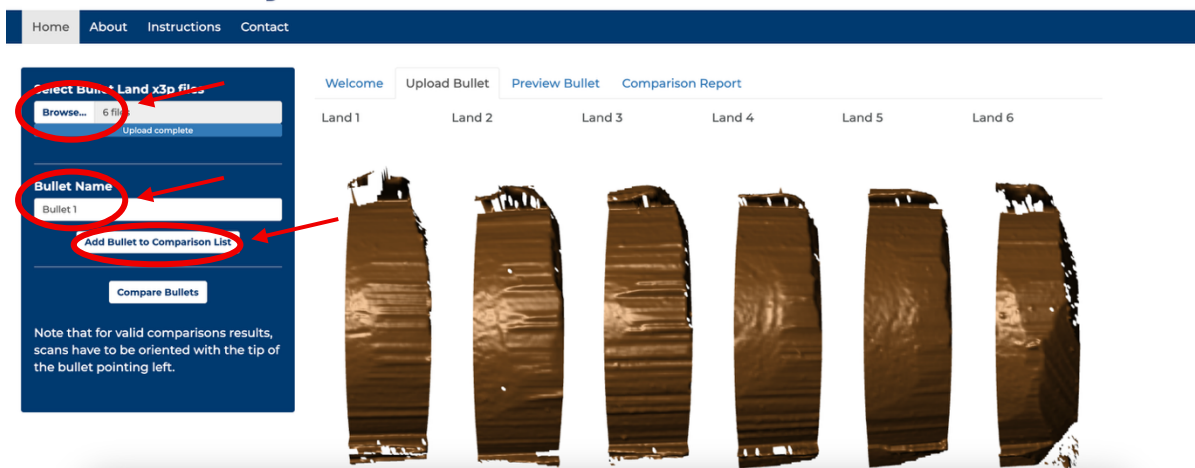

Figure 6. Click Browse to upload the scans from the first bullet. Give the bullet a name. Click Add Bullet to Comparison List.
- Select all 6 files in this folder. Each x3p file is an image of a bullet land engraved area. (Figure 6)
- Give the bullet a name (e.g., Bullet 1). (Figure 6)
- Add it to the Comparison List. (Figure 6)
- A preview of each land is shown in the main window. Rotate and zoom the lands for different perspectives. (Figure 6)